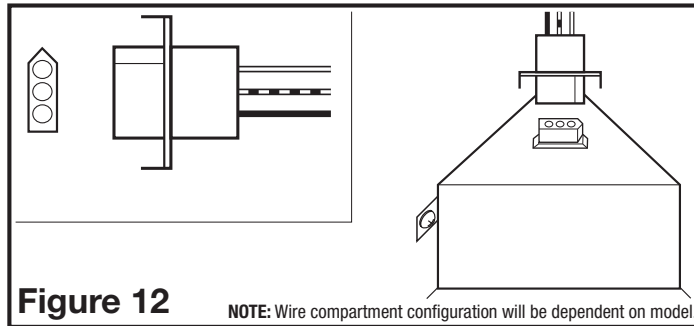

Figure 12
2. Plug the fan's quick connect motor cord into the receptacle. This cord will only fit one way into the receptacle (**Figure 12**).